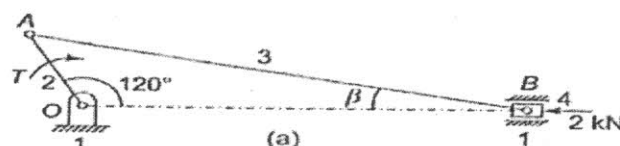

Fig 8(b)
- b) A slider crank mechanism with the following dimensions is acted upon by a force $F = 2 \text{ kN}$ at B as shown in fig 8(b): $OA = 100 \text{ mm}$, $AB = 450 \text{ mm}$. Determine the input torque T on the link OA for static equilibrium of the mechanism.